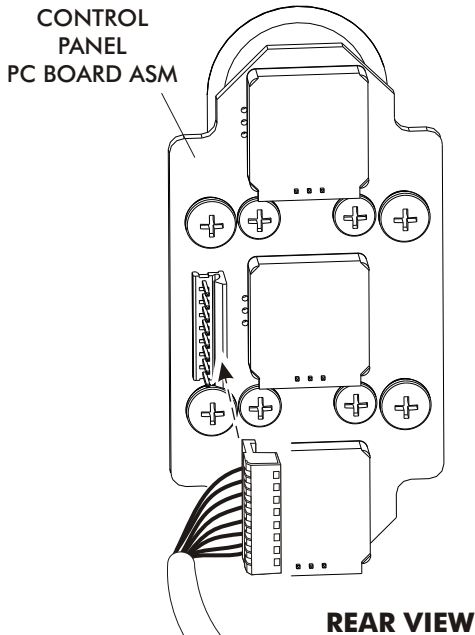

FIGURE 2
- PLUG CONTROL PANEL WIRING HARNESS INTO CONTROL PANEL AND THE ECU ON EVAPORATOR, SEE FIGURE 2, PAGE 5.